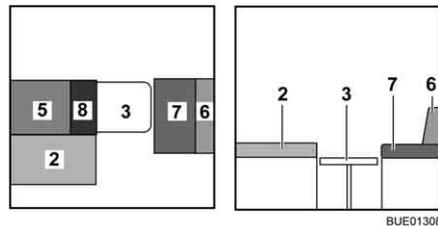

Fig. 128 During conversion
- Place the additional cushion (Fig. 128,8) on the table.